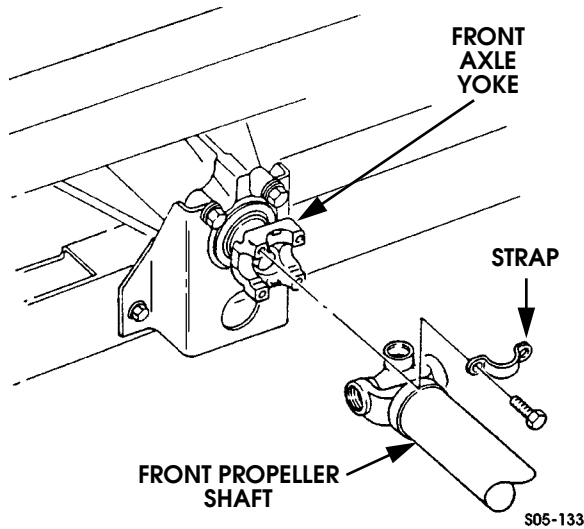

Figure 9-113: Front Propeller Shaft Attachment at Axle
1. Remove U-joint clamp bolts and straps. Then disconnect shaft yoke (Figure 9-113).